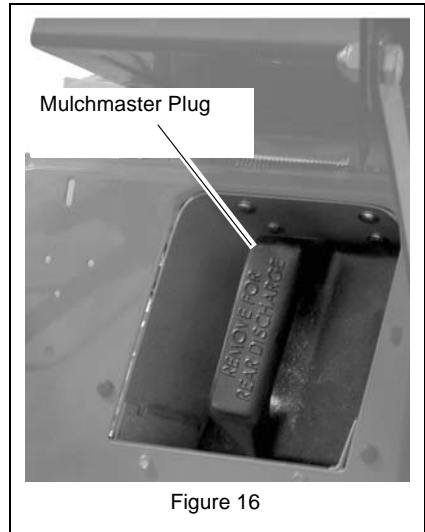

Figure 16
3. Install Mulchmaster plug (Figure 16).